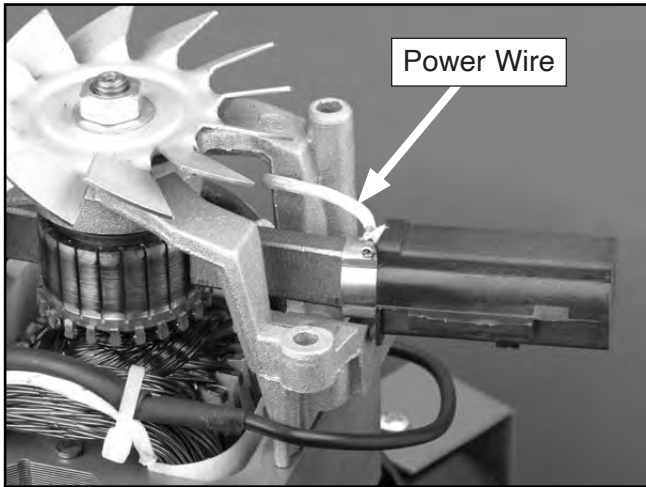

Figure 37. Brush housing removal.
- Lift each brush housing out of its seat and unplug the power wire (see **Figure 37**).